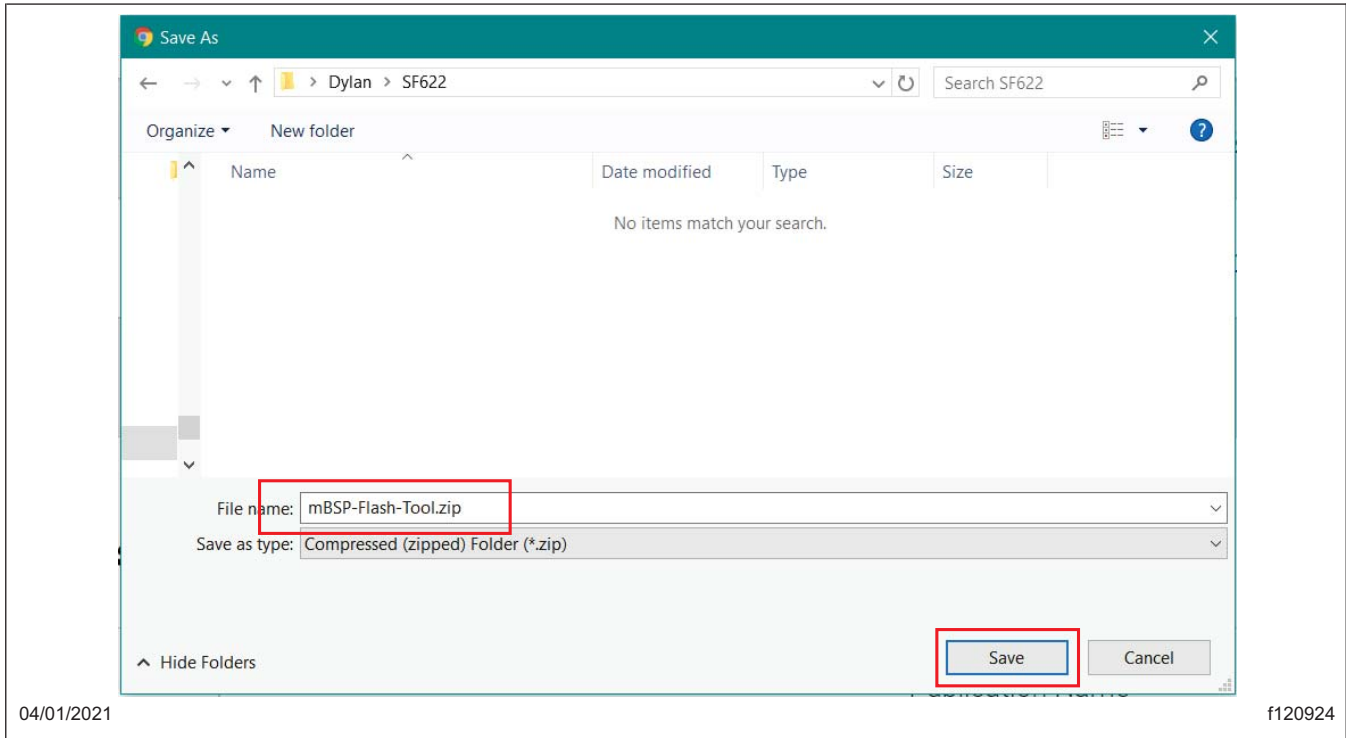

Fig. 5, Saving mBSP Flash Tool Package
5.3 Save the 'mBSP-Flash-Tool.zip' file to a location on the local hard drive. See Fig. 5.